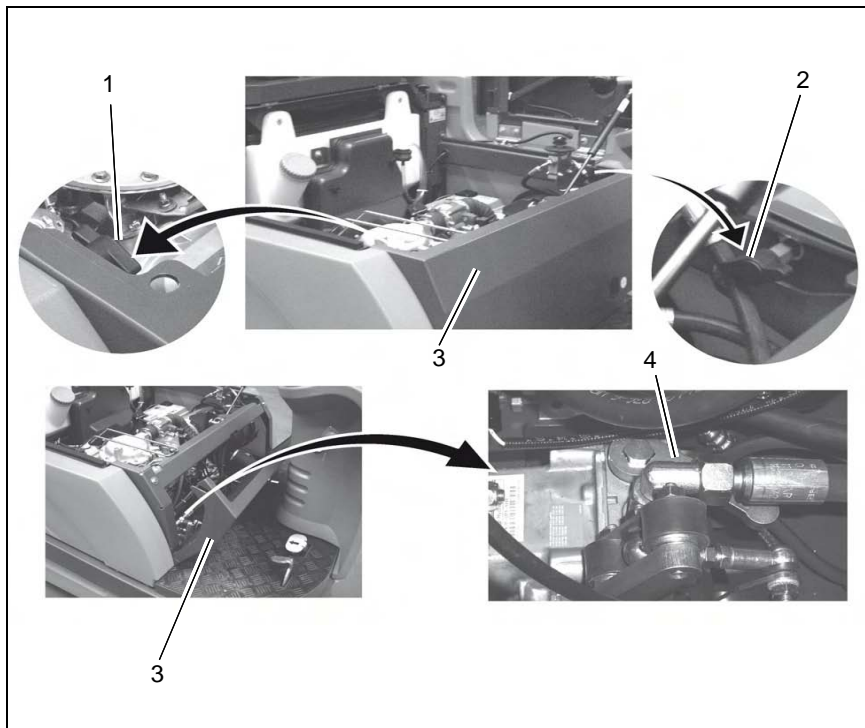

Fig.4
If the Apex 58 should be moved with engine being off, actuate the bypass valve (Fig. 4/4) as follows.
2. Loosen wing screw left (Fig. 4/1) and wing screw right (Fig. 4/2) of side covers.
3. Tip front plate (Fig. 4/3) forward.
4. Turn the lever (Fig. 4/4) of the bypass valve anticlockwise approx. to the touch.